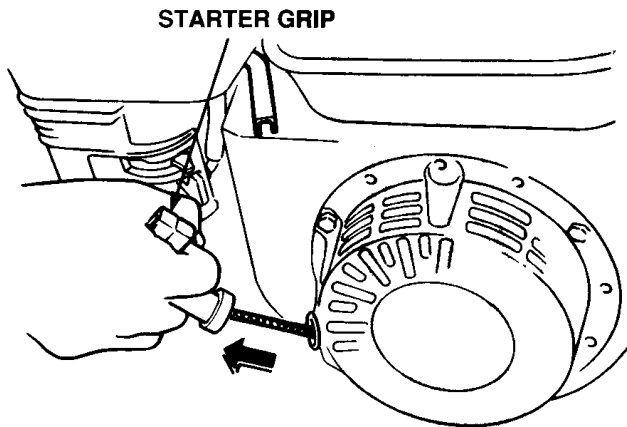

Figure 23. Starter Grip
- Grasp the starter grip (Figure 23) and slowly pull it out.